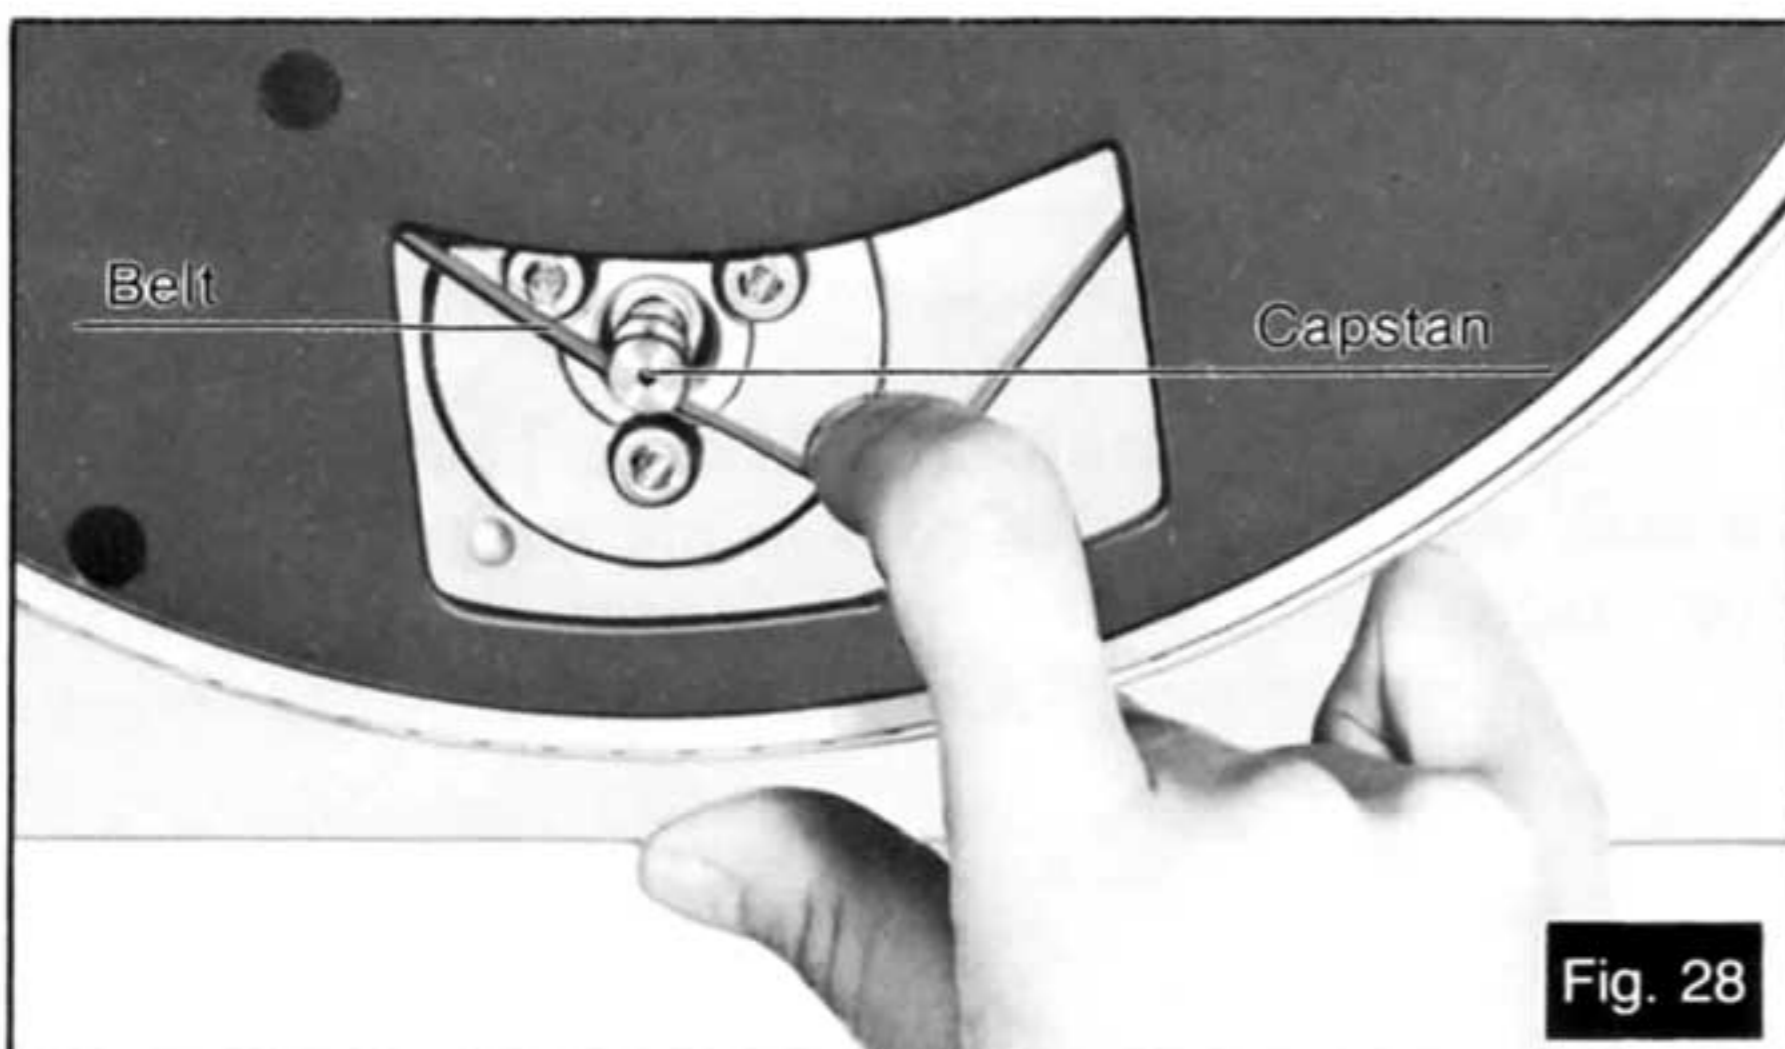

Fig. 28
① How to remove and install the turntable platter (See Fig. 28.)